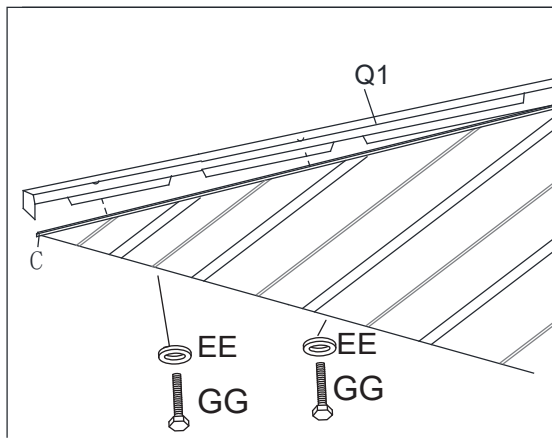
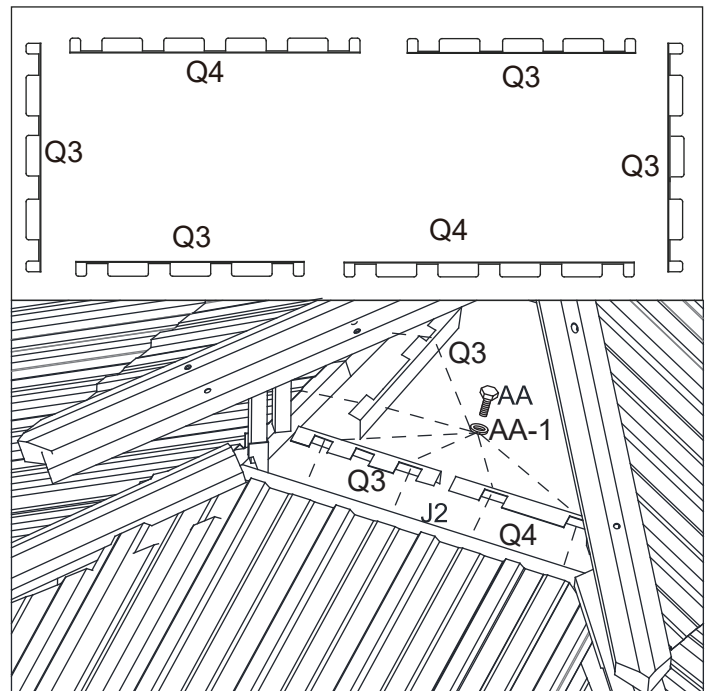
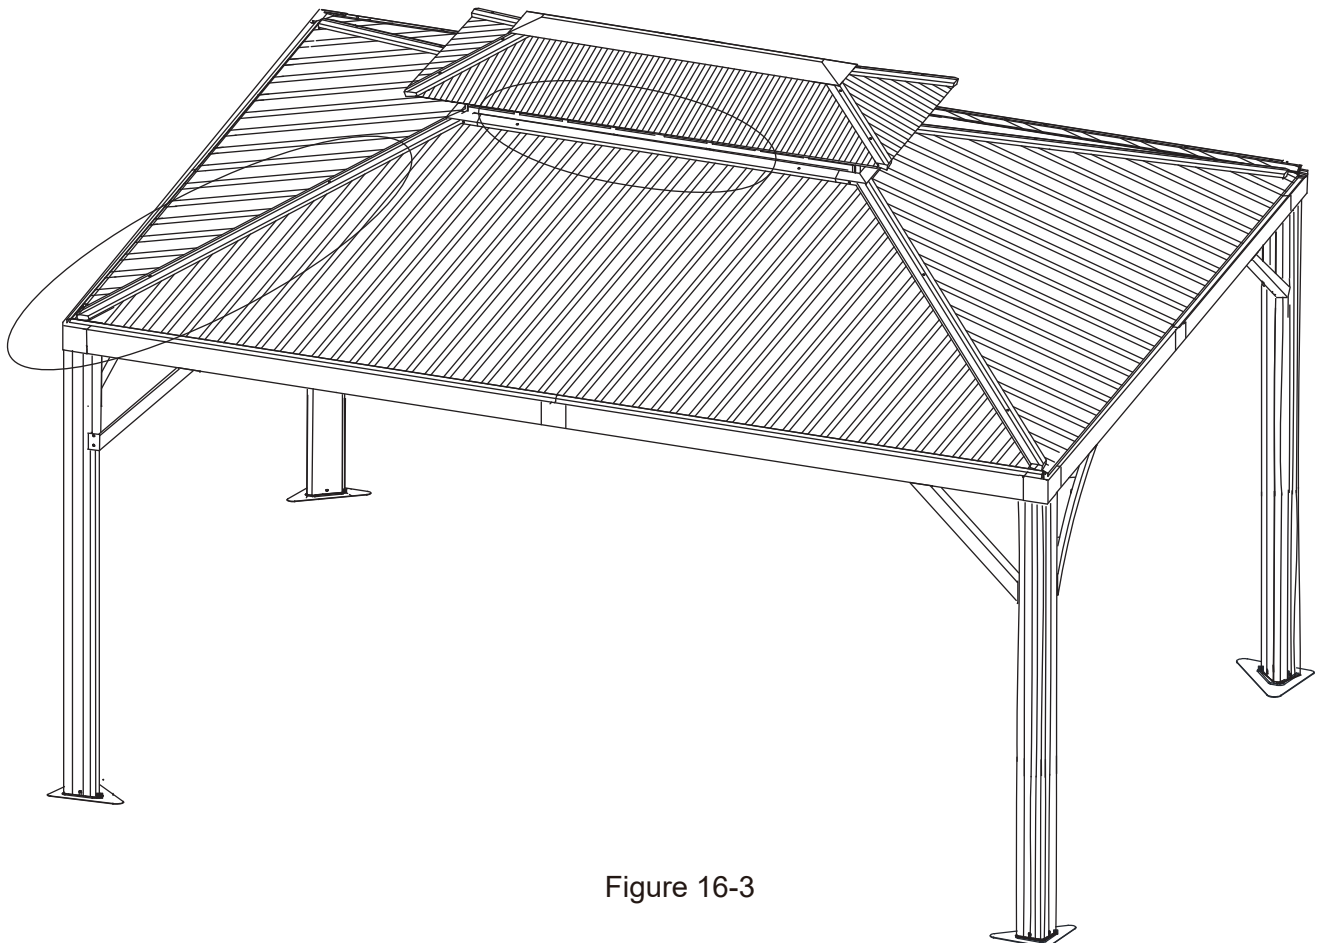

Figure 16-1
Figure 16-2
Figure 16-3
16.1: Attach the Main Roof Corner Trim (Q1) to the Main Roof Corner Support (H) using Bolt (GG) and washer (EE). Repeat for all corners. Tighten All Bolts. See Figure 16-1 and Figure 16-3.
16.2: Attach the Main Roof Center Frame Trim (Q3/Q4) to the Main Roof Center Frame (J1/J2) using Bolts (AA) and Steel washer (AA-1). Repeat for all sides. Tighten all Bolts. See Figure 16-2 and Figure 16-3.